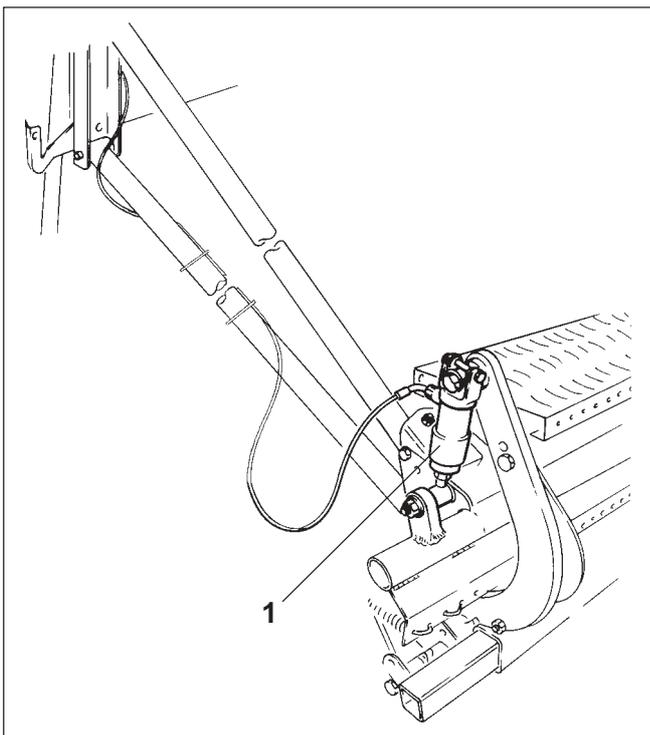
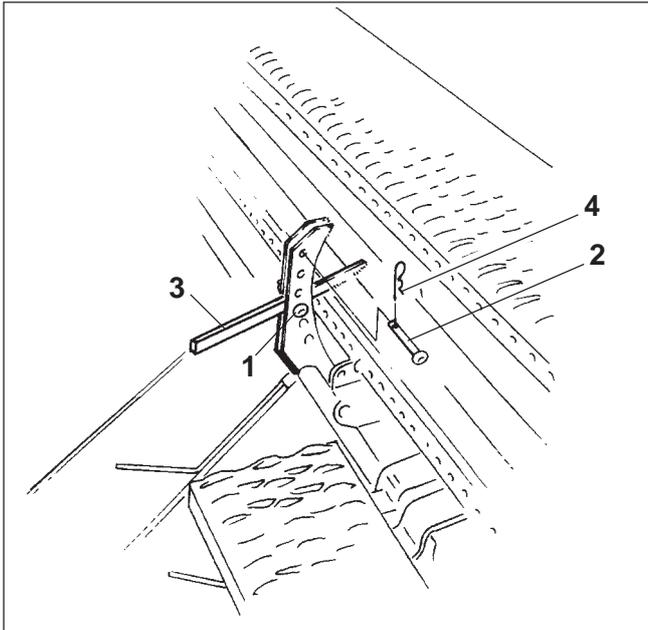

Fig. 24.11
Fig. 24.12
When changing from normal soils to heavy soils or vice versa, the coulter pressure is readjusted by a hydraulic ram (Fig. 24.11/1).
Two pins (Fig. 24.12/1 and Fig. 24.12/2) are placed as a stop for the lever (Fig. 24.12/3) in the setting segment. The lever (Fig. 24.12/3), which is actuated by the hydraulic ram (Fig. 24.11/1) lays on the pin I (Fig. 24.12/1) when the hydraulic ram is without pressure and it lays on pin II (Fig. 24.12/2) when the hydraulic ram has been pressurised.
- make the hydraulic ram (Fig. 24.11/1) pressurised.
- place pin II (Fig. 24.12/2) into a hole **above** the lever (Fig. 24.12/3) and secure with a clip pin (Fig. 24.12/4) .
- Pressurise hydraulic ram (Fig. 24.11/1) .
- Place pin I (Fig. 24.12/1) into a hole of the setting segment **below** the lever (Fig. 24.12/3) and secure with a spring pin (Fig. 24.12/4).